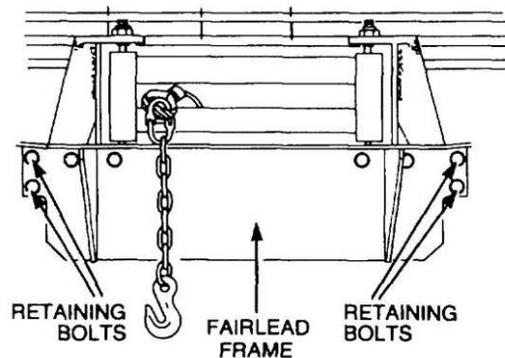

Figure 167 Removal of the Fairlead Frame to the Chassis
- d. Using a suitable jack, support the weight of the winch and remove the four bolts securing the fairlead frame to the chassis (Figure 167). Carefully pull the winch and fairlead frame forward to allow the universal joint to slide off the input shaft and to clear the chassis ends.
- e.** Install the four bolts (Figure 167) and torque them to 77 N.m (57 lbf.ft). Torque the four bolts securing the fair-lead frame to the winch housing to 77 N.m (57 lbf.ft).